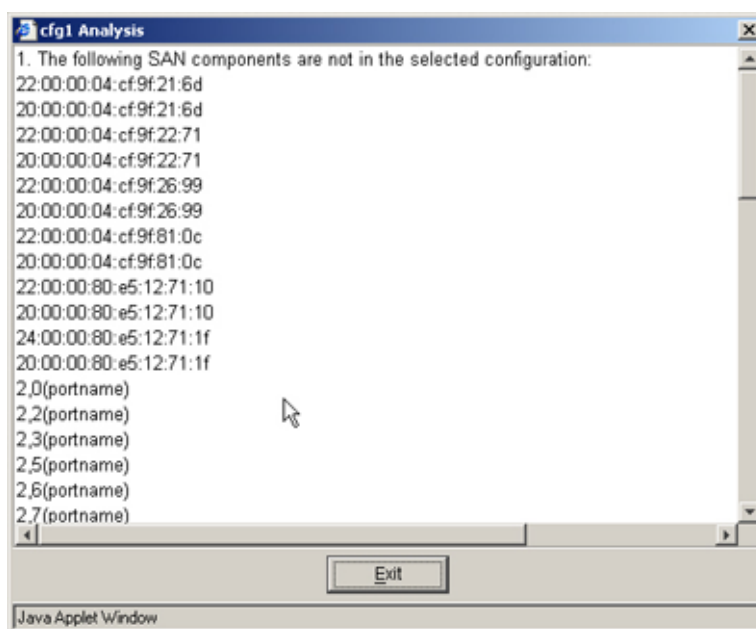

Figure 6-3 Analyze Config Report Example
4. Select the **Analyze Config** button. An analysis window appears. An example of an analysis report is shown in Figure 6-3.